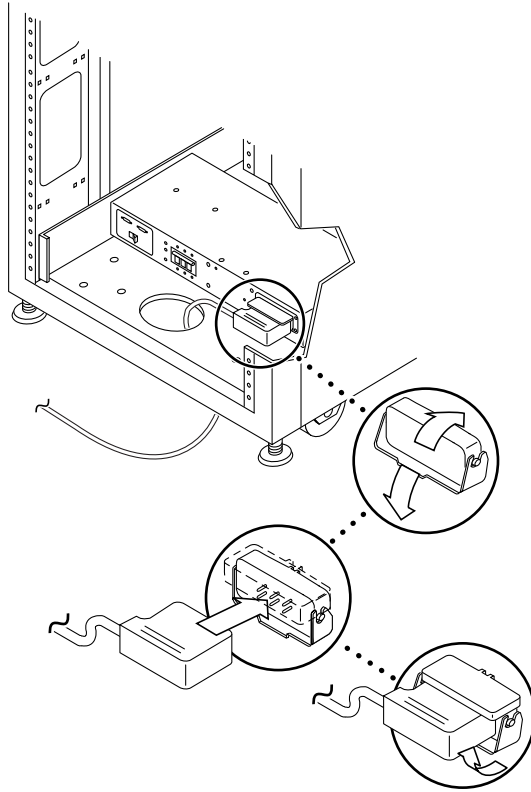

FIGURE 2-4 Connecting the AC Power Cord
- 4. Connect the female end of each AC power cord to the power sequencer connectors (FIGURE 2-4).**